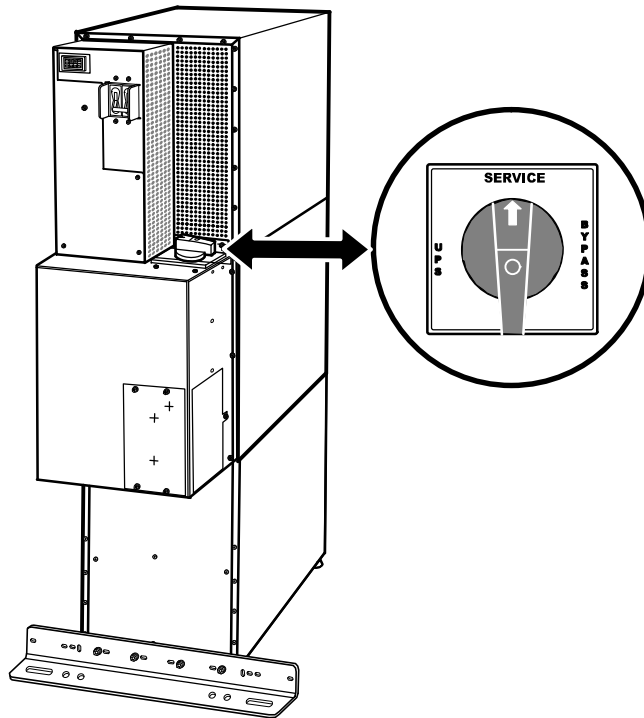

Figure 59. Maintenance Bypass Switch
4. Verify that the internal maintenance bypass switch is in the UPS position (see Figure 59 on page 95).
4. Verify that the maintenance bypass switch is in the SERVICE position (see Figure 59 on page 95).
- 1.** Verify that the maintenance bypass switch is in the BYPASS position (see Figure 59 on page 95).
The UPS maintenance bypass switch is located on the back of the UPS (see Figure 59).